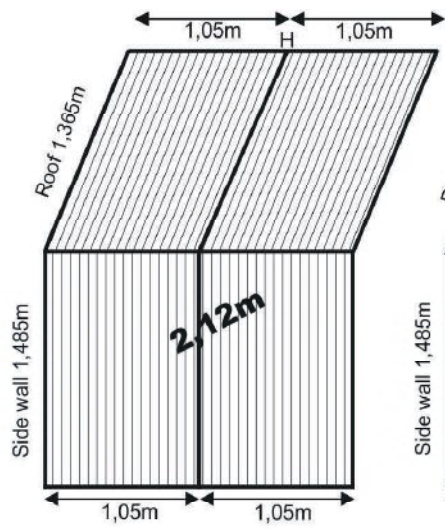

Fig. 21.1
2.12 m length: 1.05+1.05 m (Fig. 21.1)